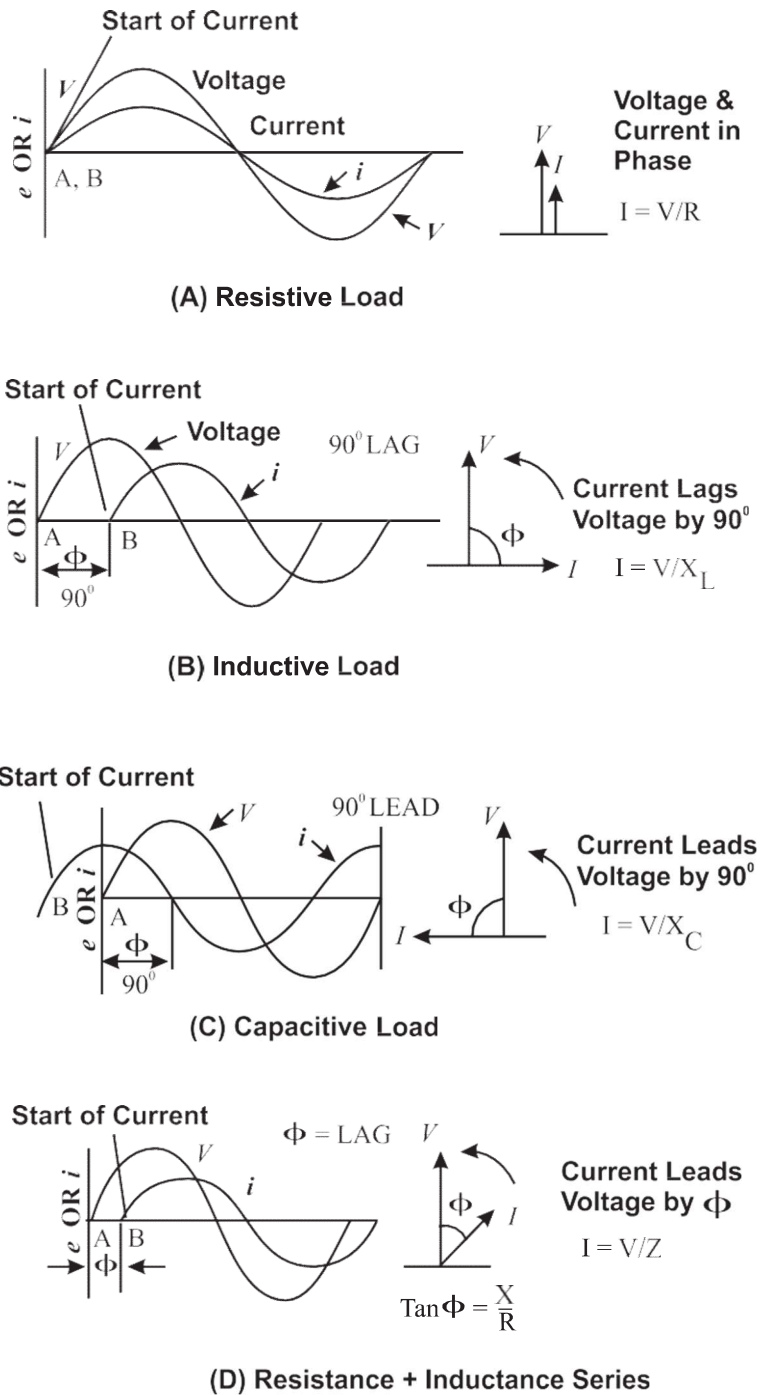

Figure 7.2: Graphical representation of voltage for different types of load.
When a sinusoidal AC voltage is applied to the equipment, the current varies according to the type of load. The load may be resistive, inductive or capacitive. Figure 7.2 shows the graphical representation of relationship between the applied voltage and the resultant current produced by it for various types of loads.
In Figure 7.2(A) to 2(D), X-axis represent the angle travelled in degrees and Y-axis represent the amplitudes of both voltage and current waves. The location of start of voltage cycle (point A) and start of current cycle (point B) in Figure 7.2(A) to 2(D) may be noted for different types of loads. When the load is pure resistive,
As seen in the Figure 7.2 above, when AC voltage is applied to any load which is not purely resistive, the current produced may not be in phase with the applied voltage. Current may lead or lag from the applied voltage by some angle. Usually the angle is represented by symbol ϕ (phi). *Cosine of this angle ($\cos\phi$) is called the power factor of that load.* Ideally, power factor (P.F) is unity for a pure resistive load ($\phi=90^\circ$, $\cos 90 = 1$). It is less than unity for reactive (non resistive) loads. Low power factor reduces the true power thereby reducing the efficiency of the system.